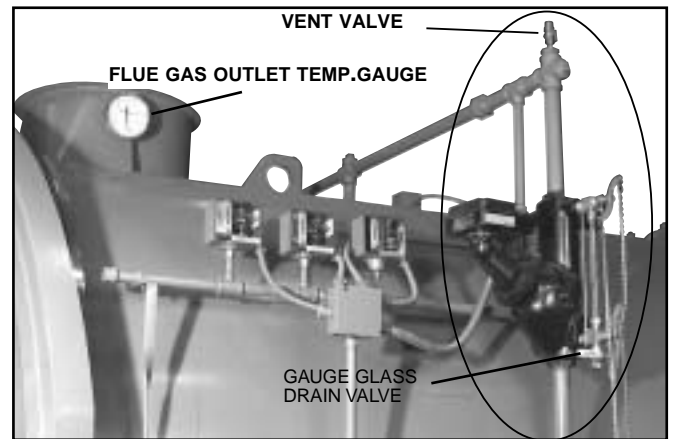

Figure: 1-7 LWCO and Gauge Glass
7. Water Gauge Glass Drain Valve (Figure 1-7): Provided to flush the gauge glass.
8. Vent Valve (Figure 1-7): Allows the boiler to be vented during filling, and facilitates routine boiler inspection as required by ASME Code.
9. Stack Temperature Gauge (Figure 1-7): Indicates flue gas outlet temperature.